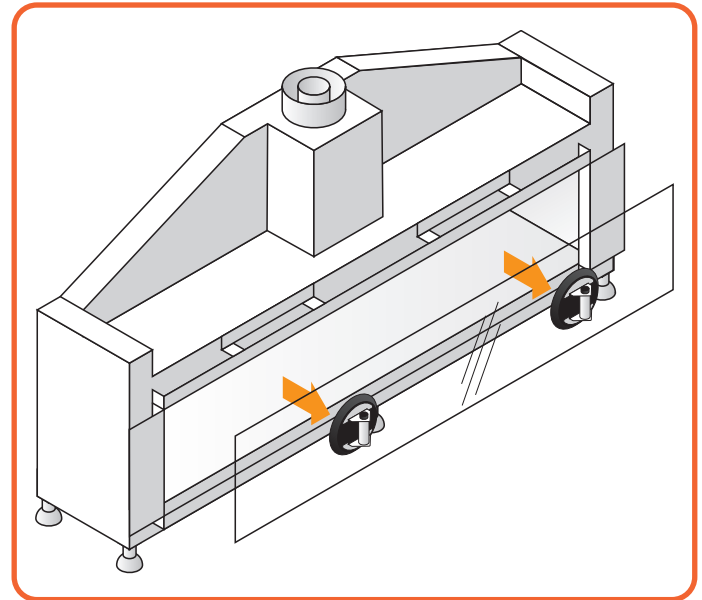

Figure 10.6 - Remove side glasses
- Lift the glass out of the lower glass rail and tilt it out through the opening, as seen in **Figure 10.6**.